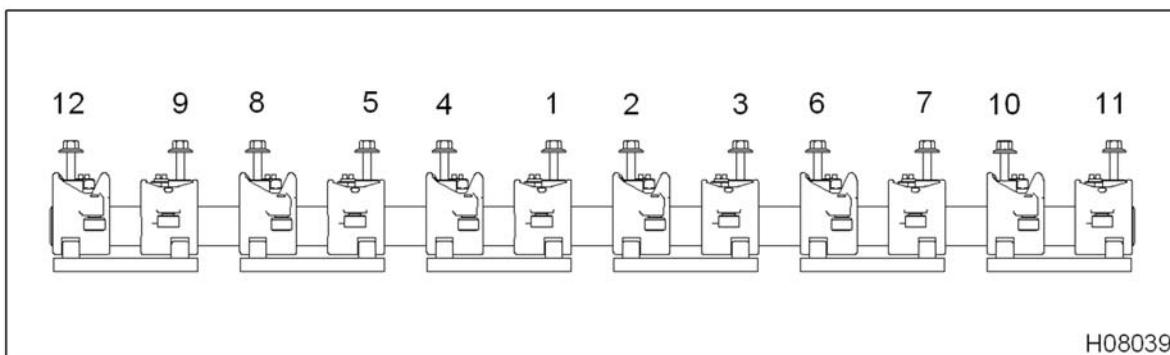

Figure 414 Rocker arm torque sequence
4. Tighten shaft bolts in two steps using rocker arm torque sequence (Figure 414).